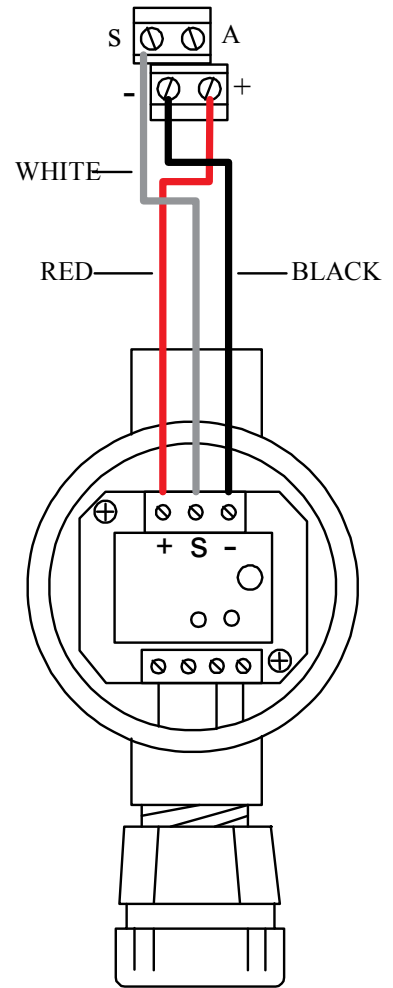
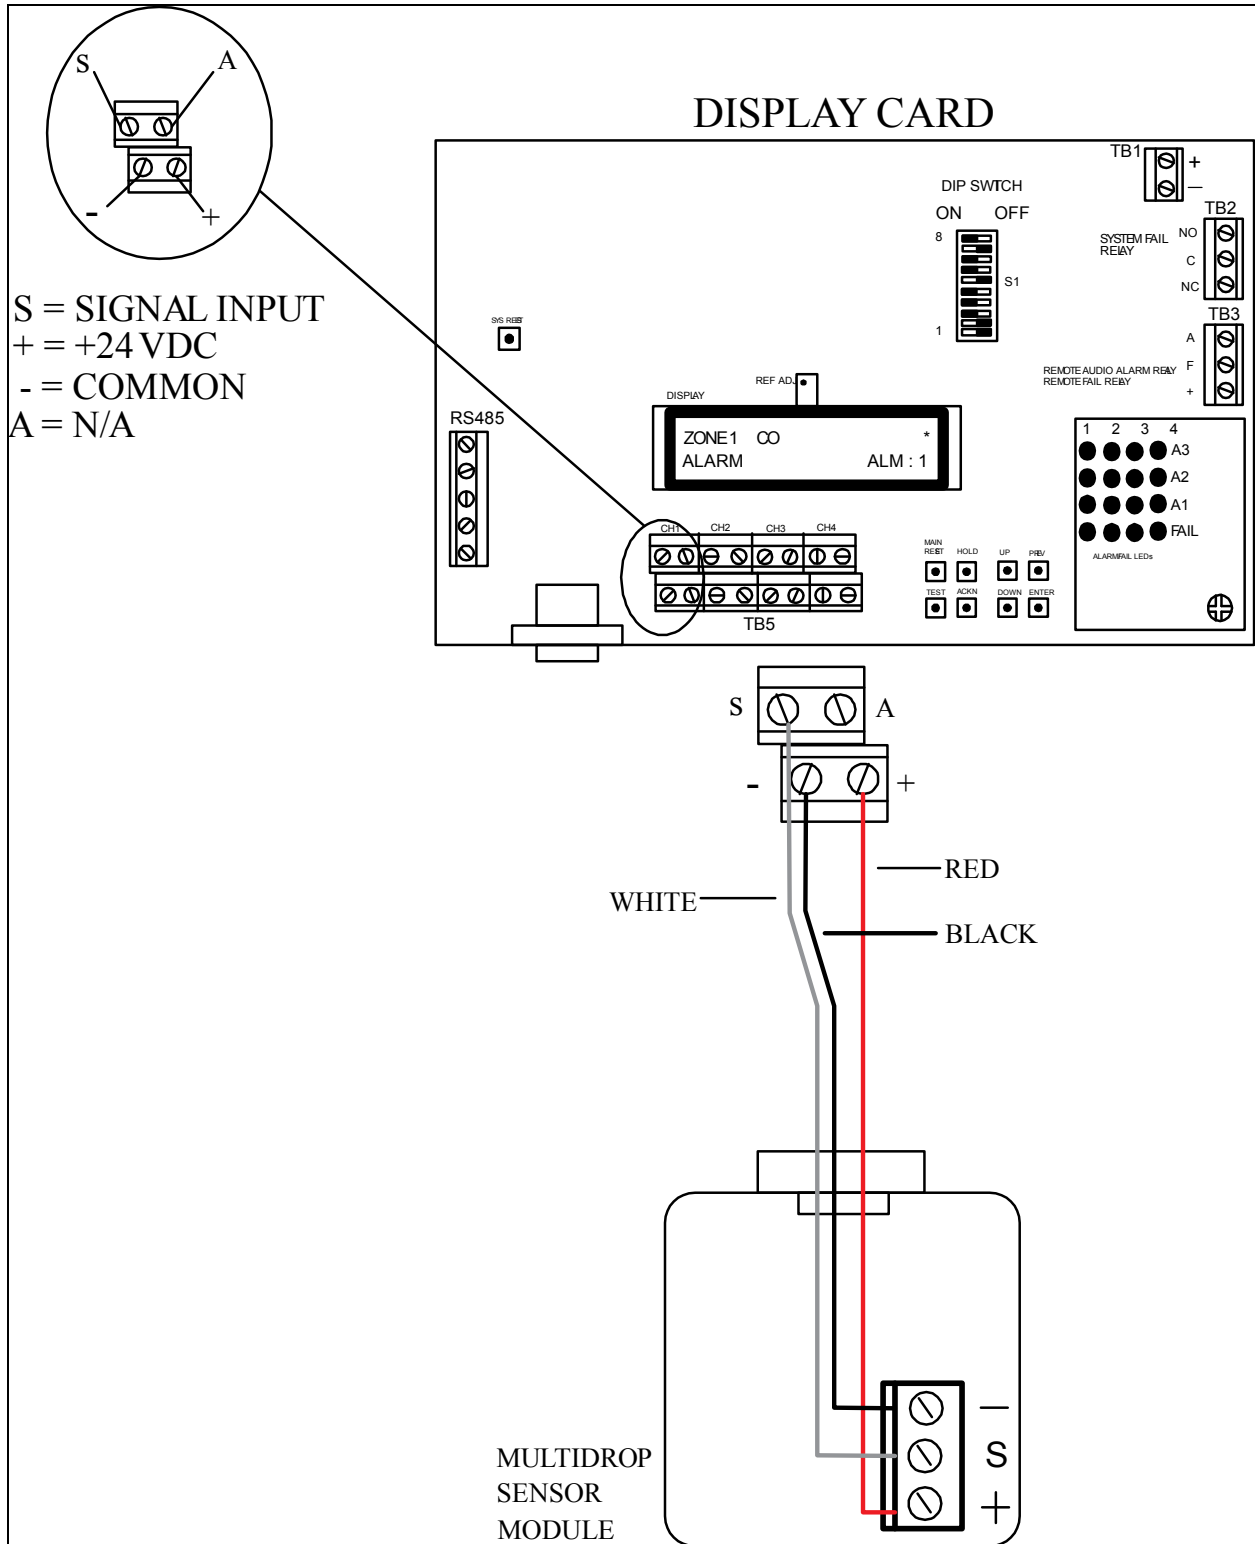

FIGURE 5A: Sensor/Transmitter Terminal Block Connections.
FIGURE 5B: Multidrop Sensor Module Terminal Block Connections
- Inputs:** Each sensor/transmitter connects to a set of terminals (-,S,+) on terminal block TB5 located on the mother board. Wiring detail for 2 and 3 wire types shown in Figure 5A. For multidrop sensor modules see Fig 5B. See specific sensor/transmitter or multidrop sensor manual.